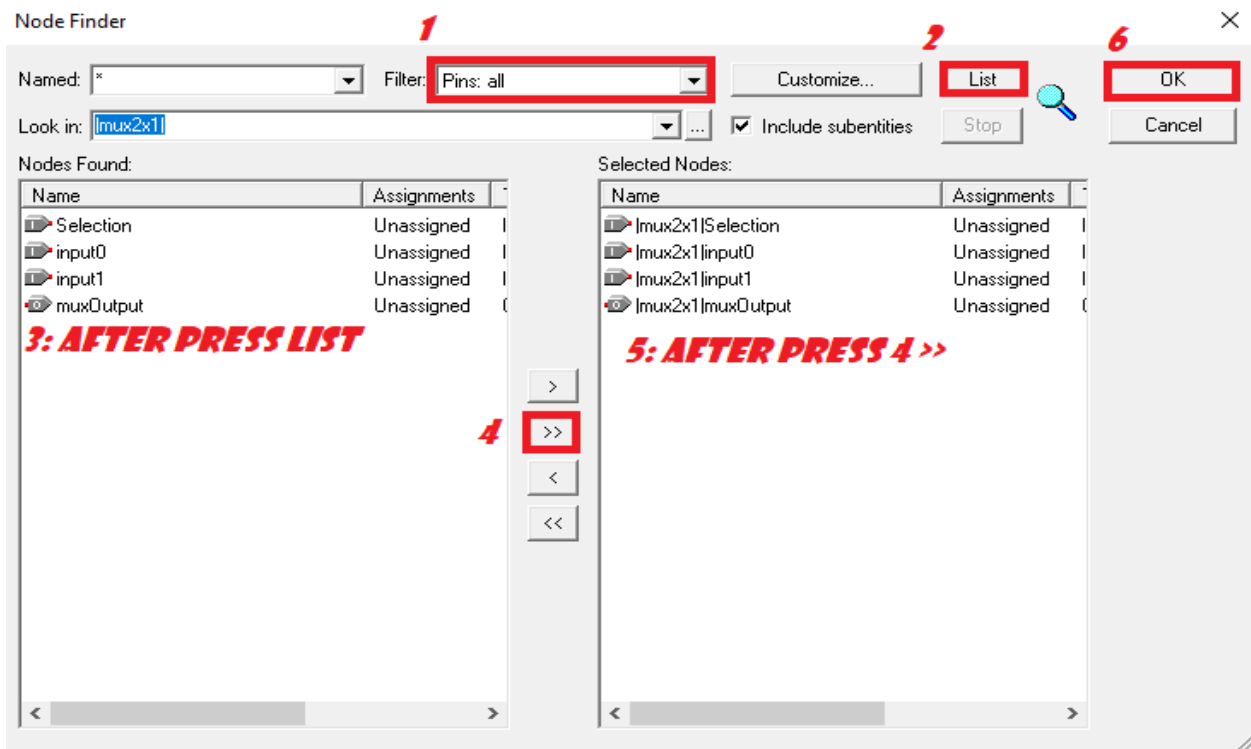

Figure 3.4: Follow the steps from 1 to 6
An empty blank (1) will be shown, double click on it will show blank (2). See Figure 3.4